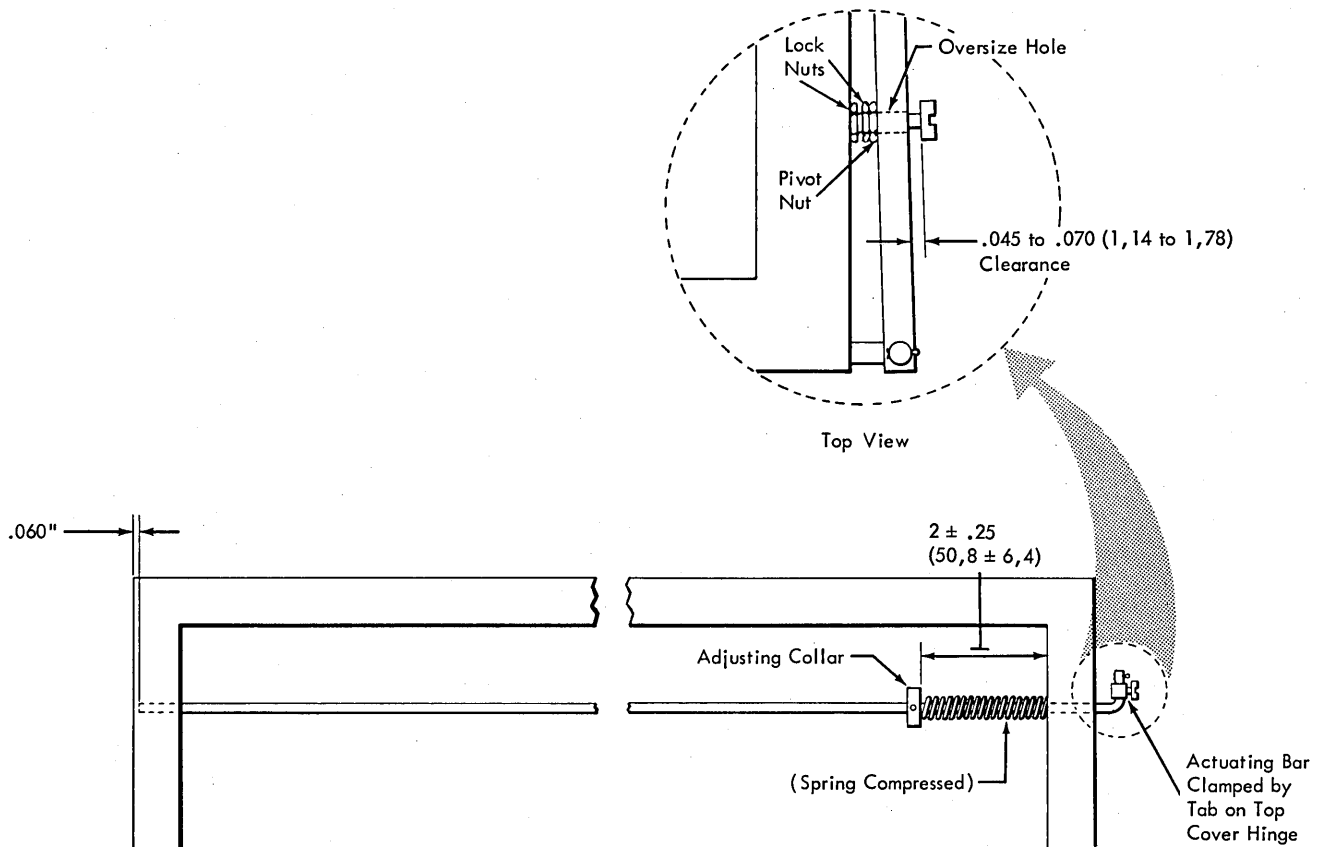

Figure 4-8. Interlock-Rod Adjustment (Latched)
1. Adjust the collars on the interlock rods (Figure 4-8) to set the length of the compression springs at  $2 \pm .25$  in. ( $50, 8 \pm 6, 4$  mm).